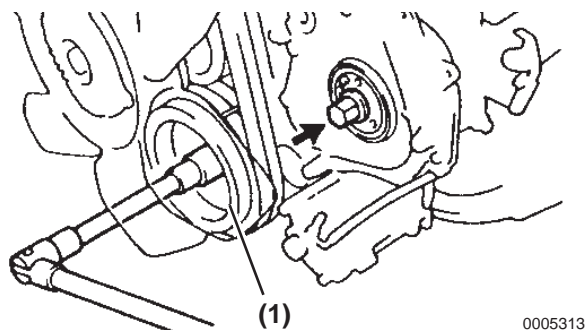

Figure 6-50
5. Remove the fuel injection pump drive gear set nut while securing the crankshaft pulley **(Figure 6-50, (1))**. **NOTICE: NEVER turn the crankshaft pulley. The valve heads and piston tops may be damaged by interference with each other.**